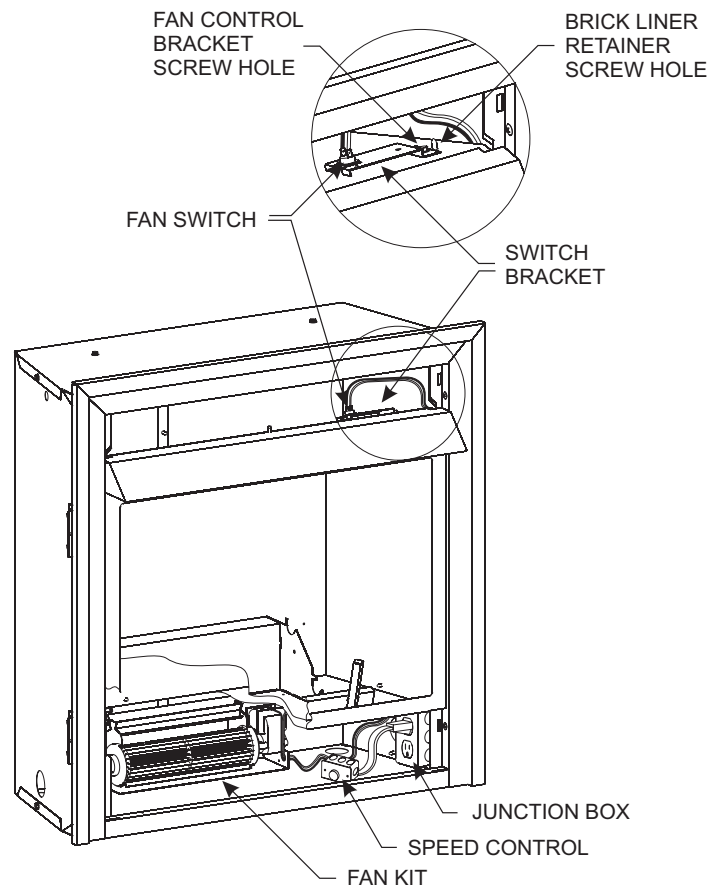

Figure 27
13. Attach fan control bracket to upper right side of firebox with one #10 x 1/2 hex screw provided. **See Figure 27.**